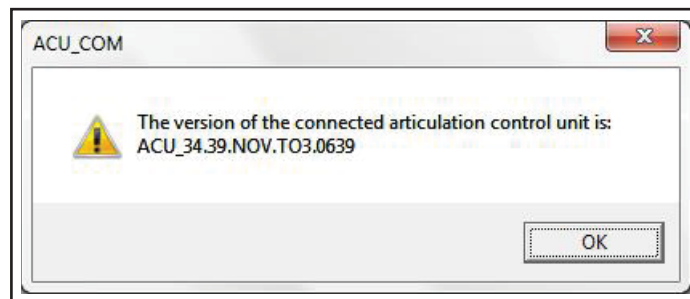

Figure 10 - Software Version Typical Window
1.14. A second pop-up window will appear to confirm the ACU software version. See Figure 10. Compare the version in the pop-up with the one you did upload. If the two versions are identical, click OK. If not, redo the procedure from step 1.8.